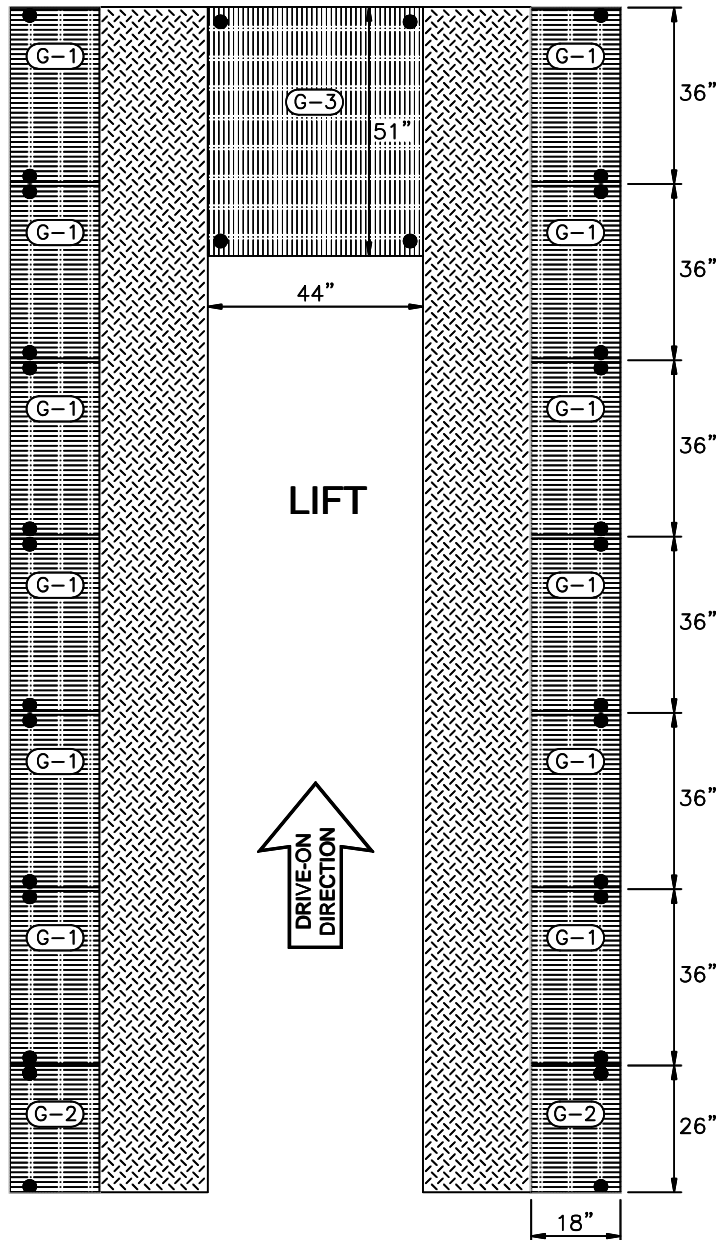

Fig 37 - Fiberglass Grating Layout
- 63) Fasten runway center grate and catwalk grating, **Fig 37**.